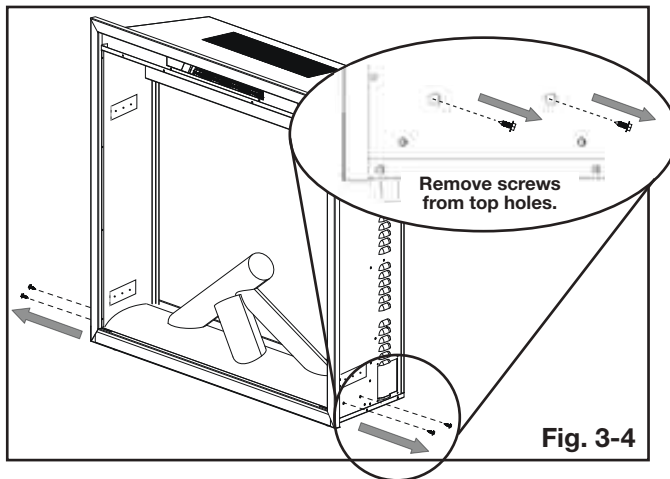
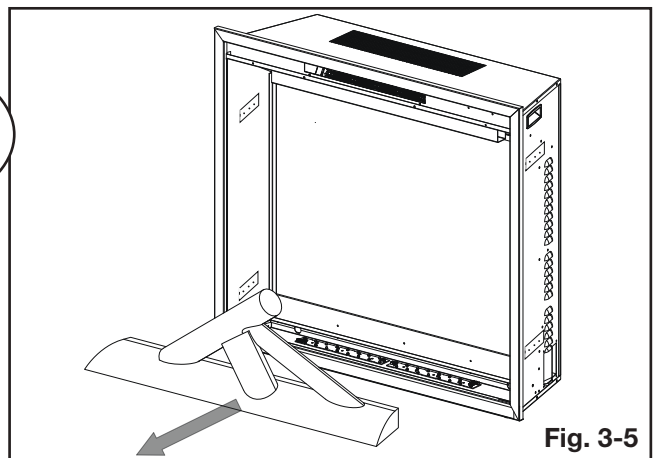

Fig. 3-4
Fig. 3-5
4. **FOR NEFB36H-BS-1 ONLY:** Remove the 4 screws holding the log set in place (**Fig. 3-4**) then carefully remove the log set. Set the log set aside (**Fig. 3-5**) and discard the 4 screws.